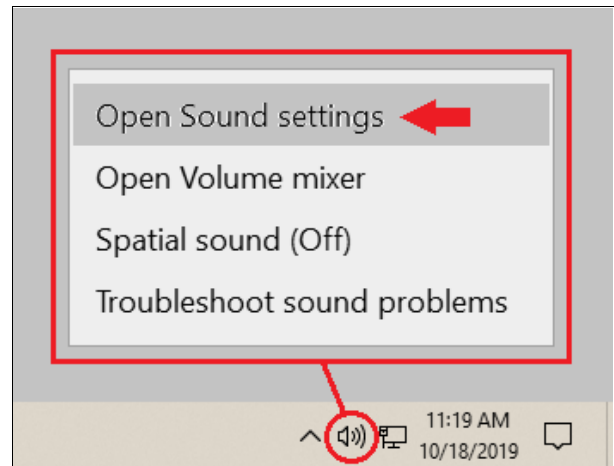

Figure 3 - Speaker icon
- As shown below in Figure 3, locate the speaker icon on the Windows task bar (lower right corner of the Windows desktop).